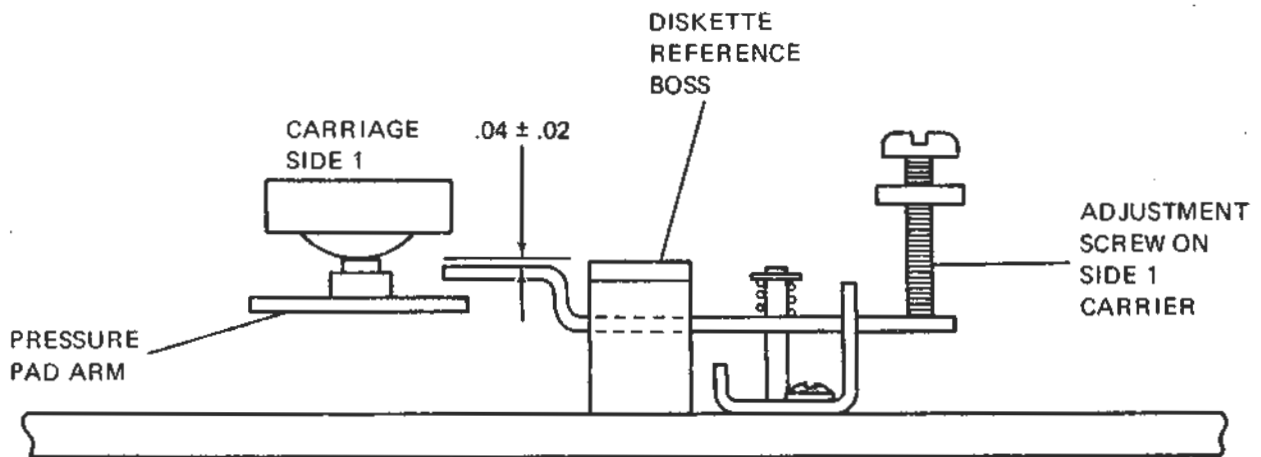

Figure 2-14. Head Pressure Arm Retract Mechanism (Side 1) Check and Adjustment
- d. The mechanism as viewed in this manner should appear as shown in Figure 2-14.
- c. Observe the position of the retract mechanism as viewed through the diskette aperture in the bezel. (Figure 2-14.)